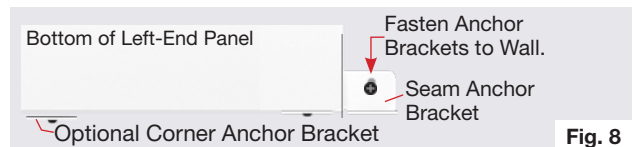

Fig. 8
- **Fasten Seam Anchor Bracket to Wall**—Fasten the Seam Anchor Bracket to the wall using hardware appropriate for your wall type (not included) (Fig 8). Fasten to a wall stud if possible or use wall anchors as needed.